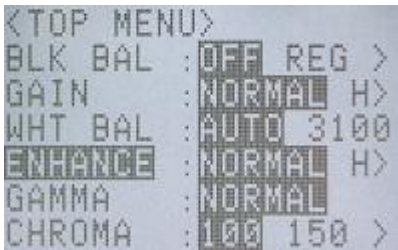

Figure 3-56 ENHANCE(TOP MENU)
- 2) Use the arrows   to select "ENHANCE" from the TOP MENU. (Figure3-56)